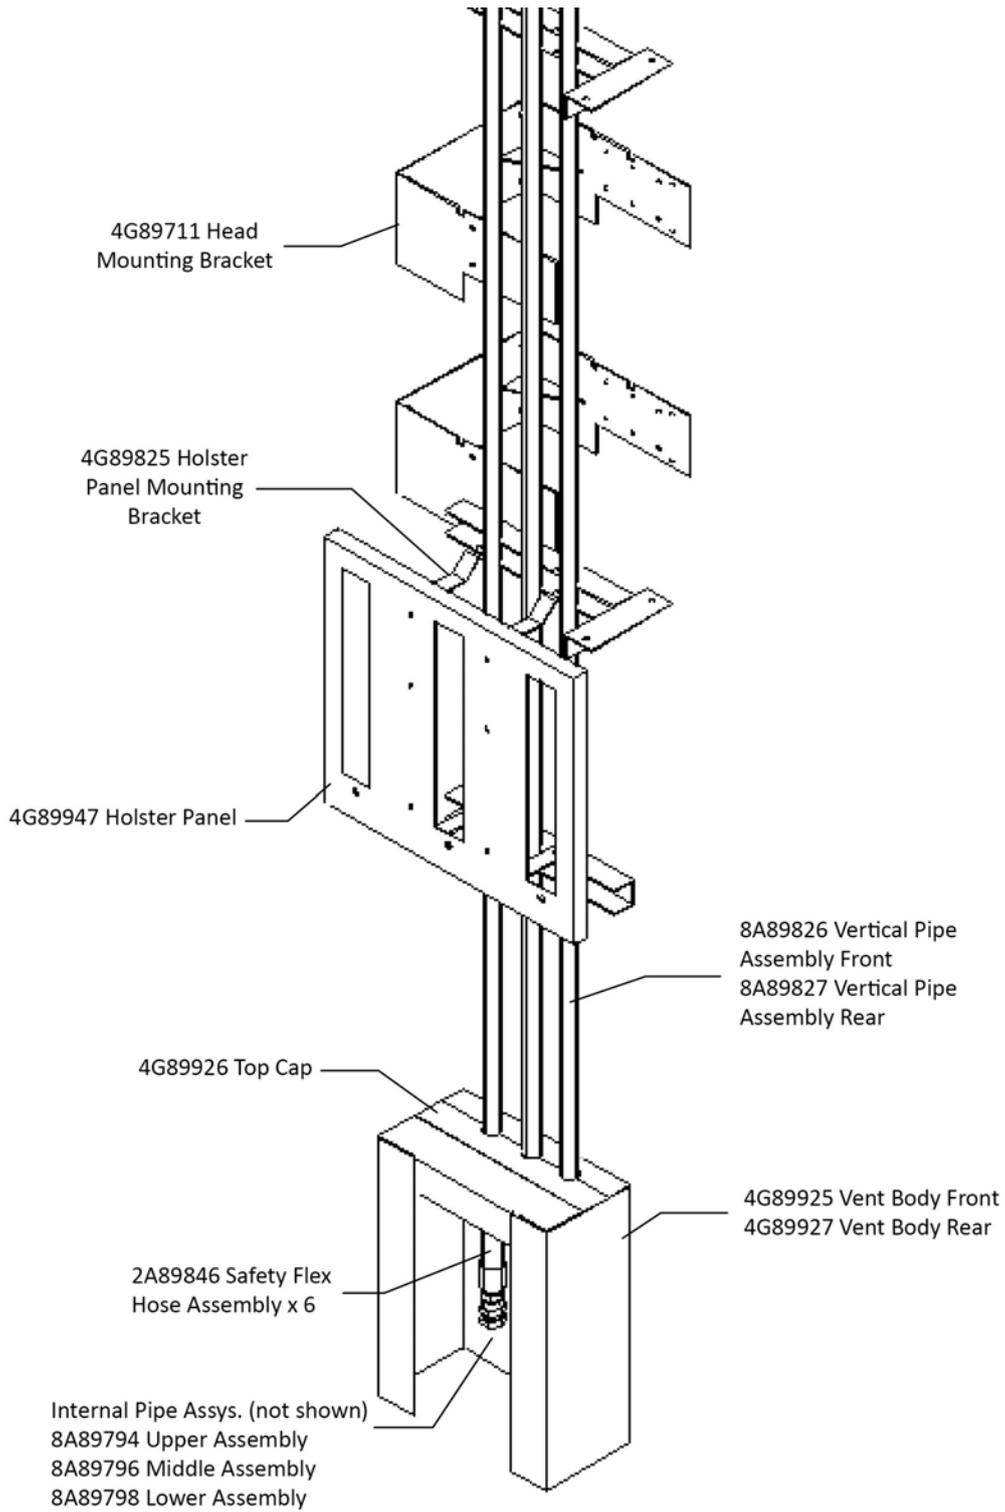

Figure 9. Delivery Pipes Assembly Part Numbers
- Place the front vertical pipe assembly 8A89826 onto the front face of the column (see Figure 9 for part numbers). The top angled section of the pipe assembly should be pointing out to the right hand side (e.g. towards the sump).